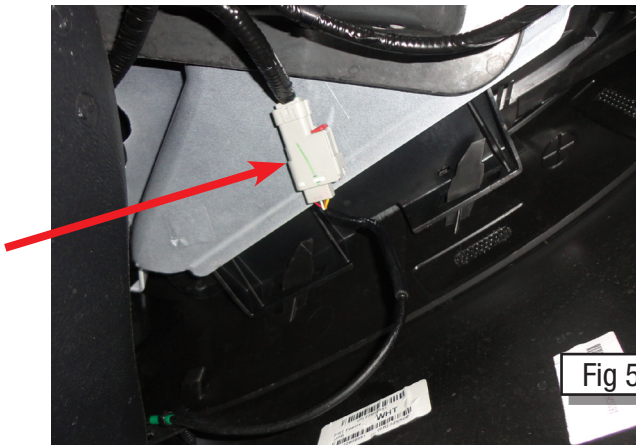

Fig 54.
61. If the vehicle is equipped with the front parking cameras in the nose, plug the wire harness in on each side of the vehicle (Fig. 54).